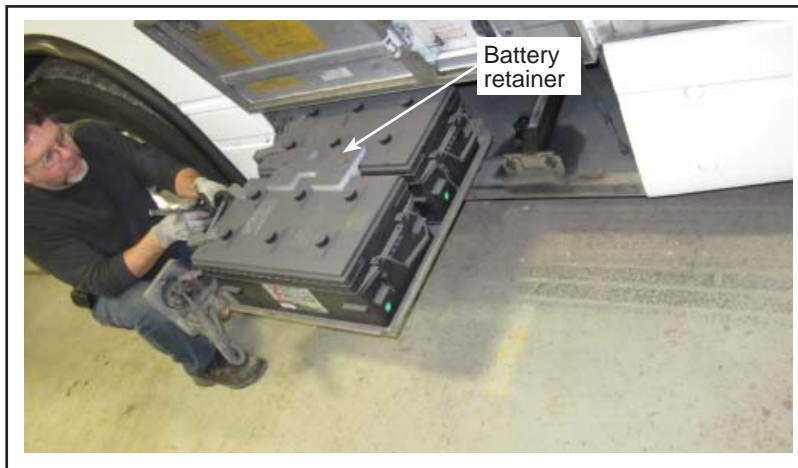

Figure 3 - Pivoting Battery Tray
- 2.3. Remove the battery retainer. See Figure 3.